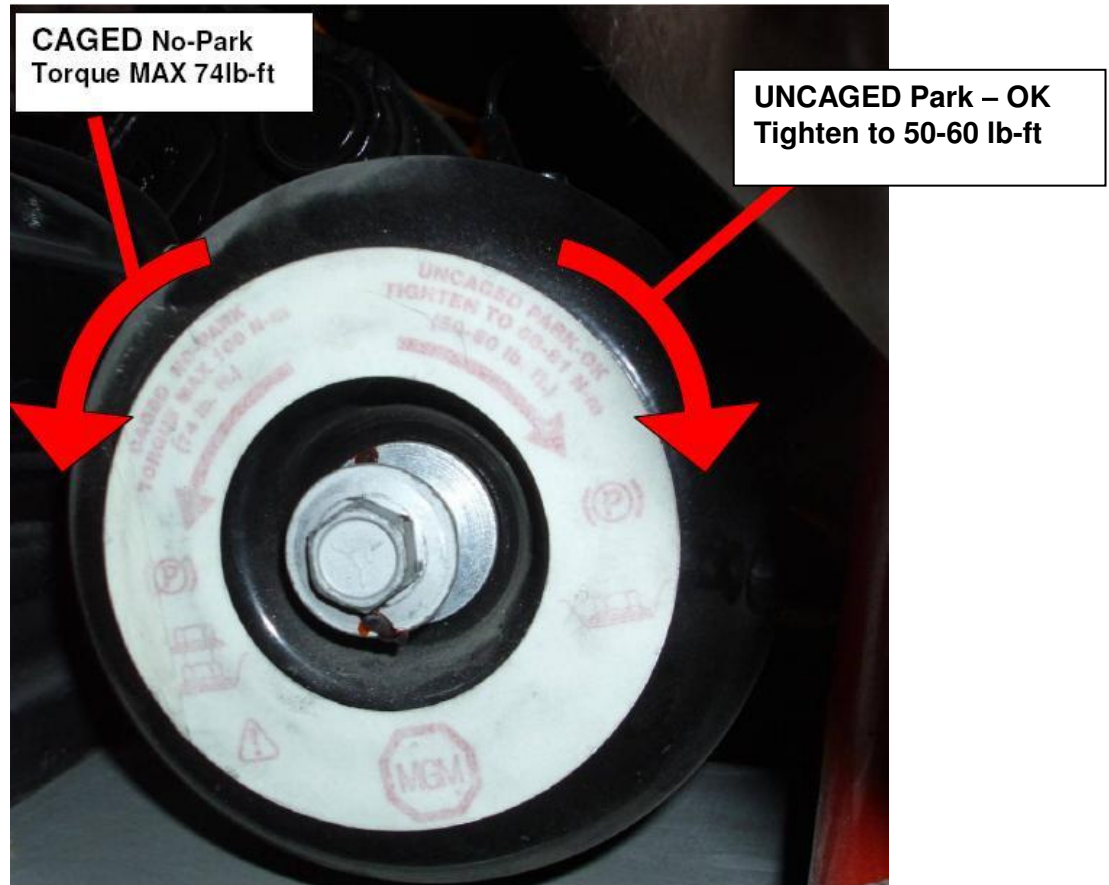

FIGURE 3: MGM CAGE & UNCAGE PROCEDURE
- b. Turn caging bolt counter-clockwise until it stops (approximately 22-23 turns). Do not use air tools. Do not exceed 74 ft-lbs. See Figure 3.
- b. Turn caging bolt clockwise until seated against head of brake chamber and tighten to 50-60 ft-lbs. Do not use air tools. Do not exceed 60 ft-lbs. See Figure 3.